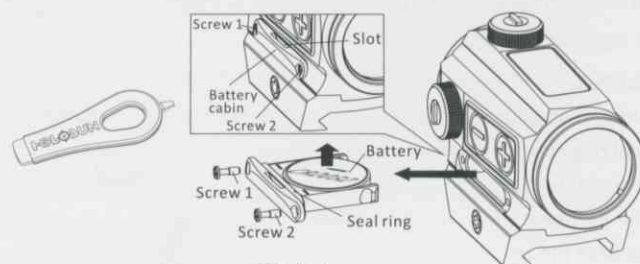

Fig 3-1
1) Remove the battery (Fig 3-1):